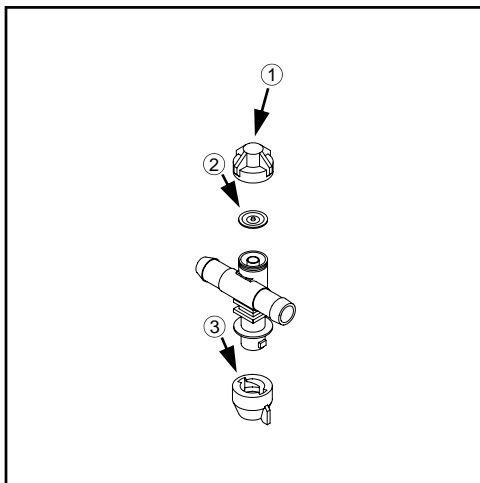

FIG 8.57
At the beginning of each season, or as required, remove a random sample of spray tip caps (fig. 8.57, item 3) and inspect the nozzle tips. If they are plugged or worn, clean or replace them.
At the beginning of each spray season, remove nozzle body cap (fig. 8.57, item 1) and inspect the diaphragm for wear or fit (fig. 8.57, item 2). Replace if necessary. Refer to accompanying manual containing nozzle information.